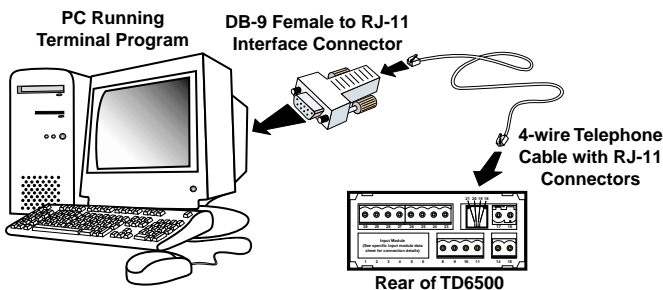

Figure 8 – RS-232 Hardware Connections
Figure 8 shows a simple RS-232 connection between a TD6500 controller and a PC.
Figure 8 shows a number of TD6500 controllers with the hardware required to connect directly to a PC using RS-485.
See Figures 8, 9, 10, 11 and Tables 5 and 6.
- 1) Connect the controllers together using the 2-wire telephone cables as shown in Figure 8.